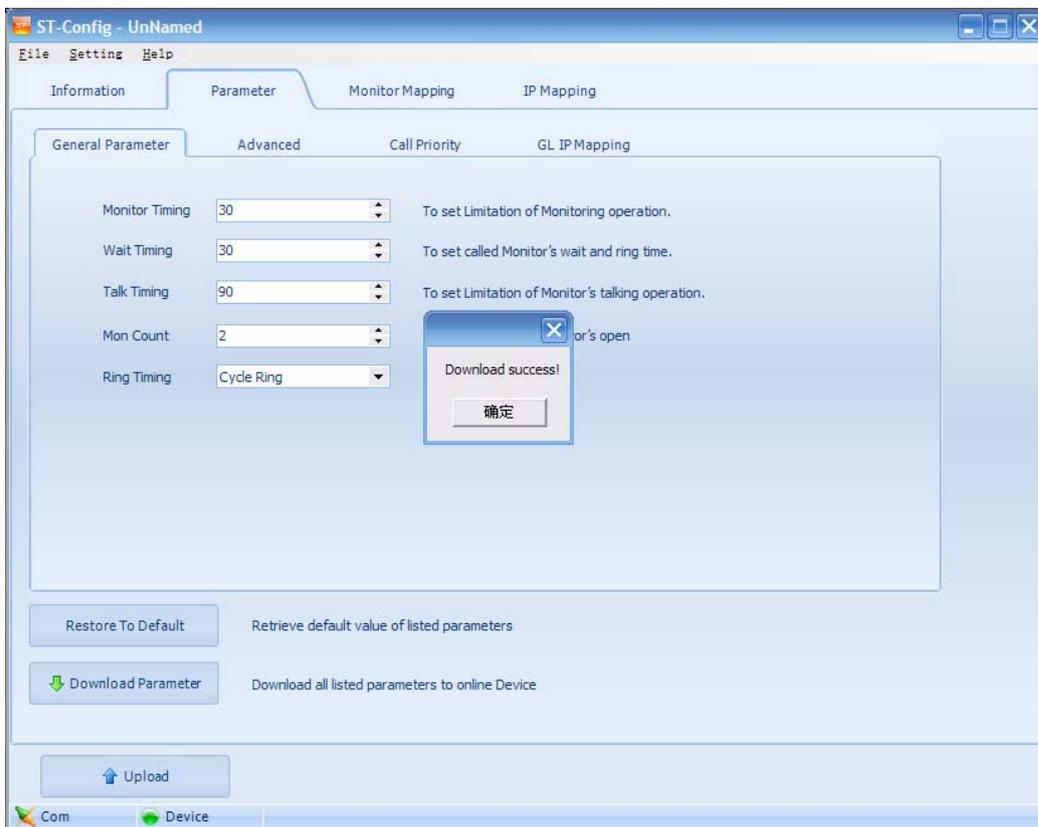

Figure 13
- Step7: After parameters are set, come back to General Parameter menu, and Click Download Parameter button. If the data have been successfully download to C5-IPC, a message window (Figure 13)shows in the middle of software to inform us download success. Note that if we want to set all the parameters to defaults, click Restore To Default button, then click Download Parameter button.